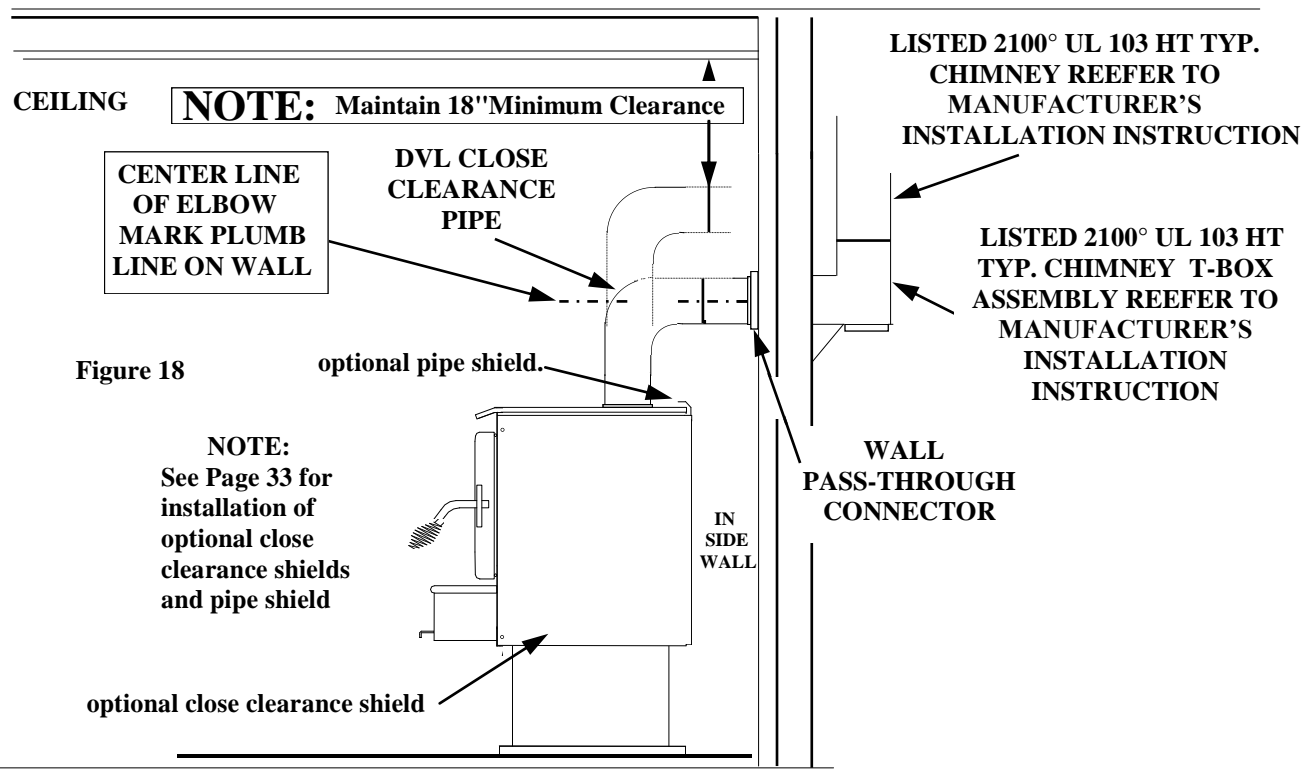

Figure 18
(See Page 26, Figure 18).
3. Measure up so there will be at least 1/4" rise per foot of horizontal connector pipe, maintaining clearances to ceiling as noted in (Page 26, Figure 18). This will give you center of hole for chimney penetration.
5. Connect the DVL close clearance pipe to tee-box, per manufacturer's instructions. DVL close clearance pipe is to be connected with (3) sheet metal screws or rivets to connector collar on heater.(See Page 26, Figure 18).